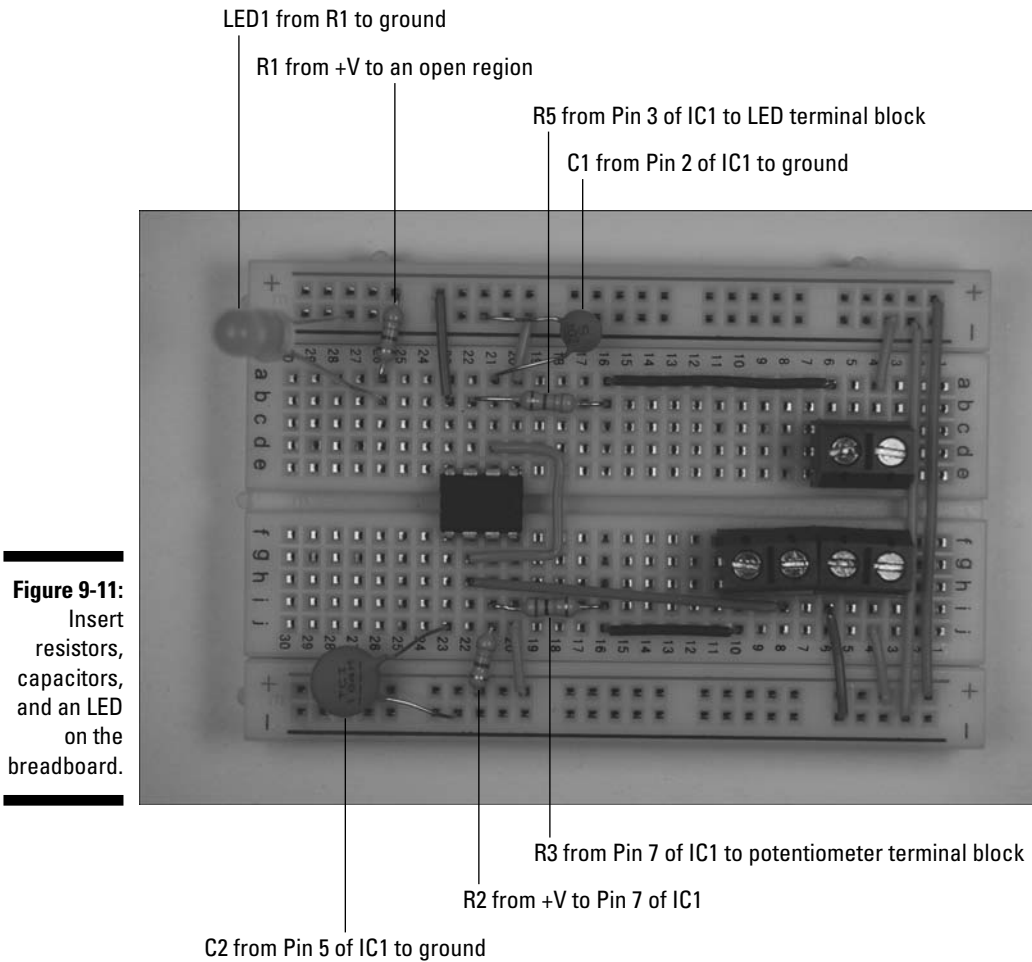

Figure 9-11:
5. **Insert discrete components on the breadboard, as shown in Figure 9-11.**